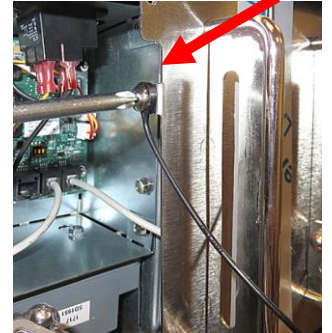

Figure 88
86. Reconnect the controller lanyard **FIRST** (see Figure 88).